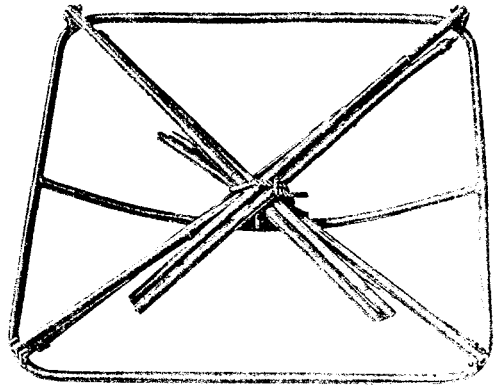

Fig. 4 — Frame Secured For Storage
4.01 When the tent is not in use, collapse the frame and secure it in the manner shown in Fig. 4 for transportation or storage.